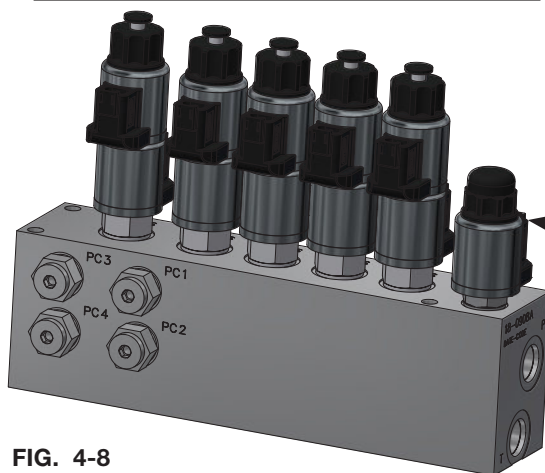

FIG. 4-8
6. Push and hold the manual override button on valve (9008438). (FIG. 4-8)